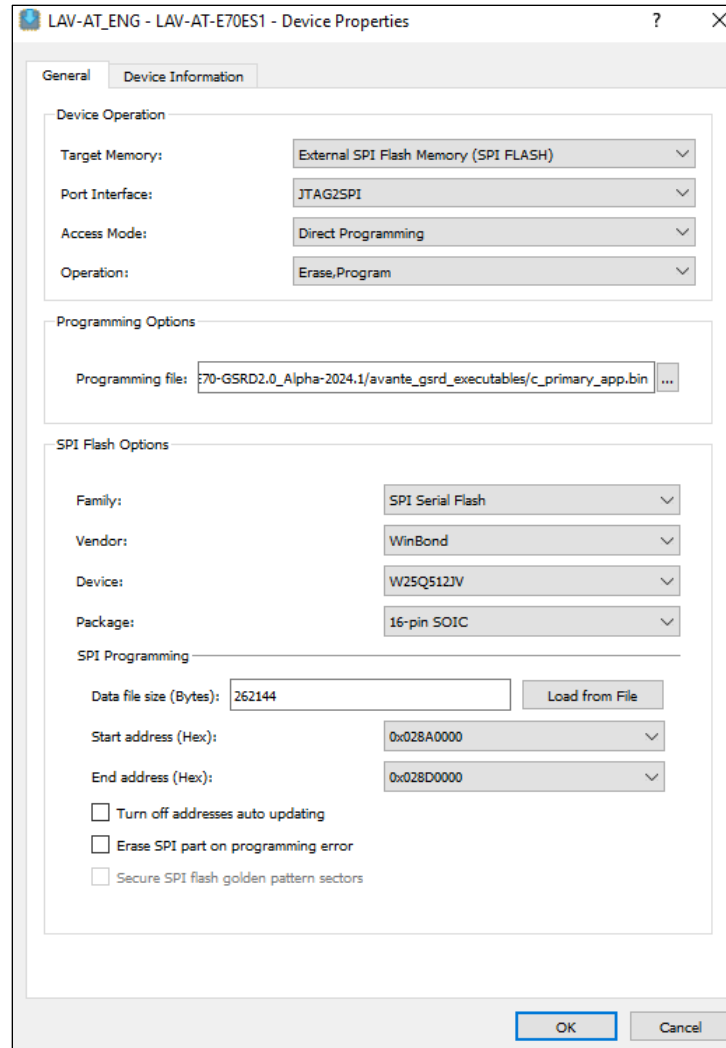

Figure 7.39. Device Properties Window for Primary App Binary without CRC
- To program the **c_primary_app.bin** software file into the SPI Flash, Follow the settings as shown in Figure 7.39.